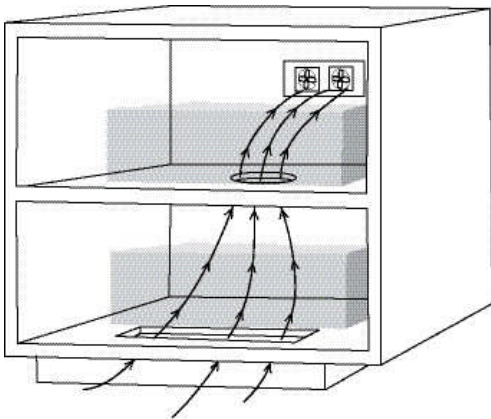

Fig.4
- Is there a minimum of 2" of clearance between the back of the enclosure and the wall, allowing rear panel mounting? See figures 4 & 5.